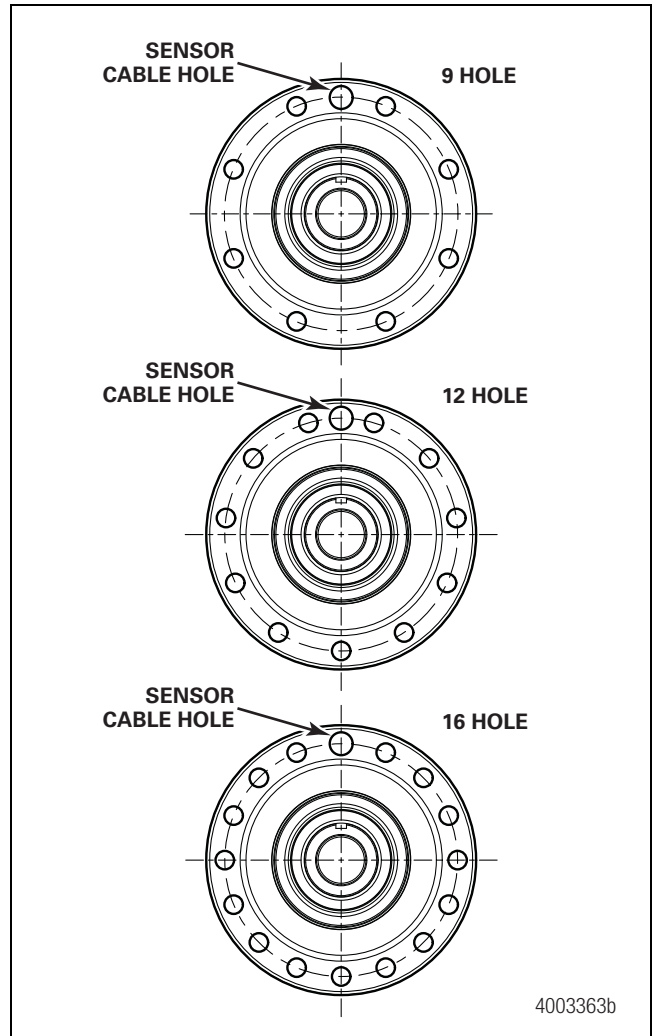

Figure 12.22
9. Currently brake flanges are available to mount bolt-on torque plates with nine, 12 and 16 hole patterns. For all three designs, the ABS wire should pass through the 0.8125-inch diameter hole and the remaining holes should be used for fastening the brake spider as detailed in Section 6. Figure 12.22.